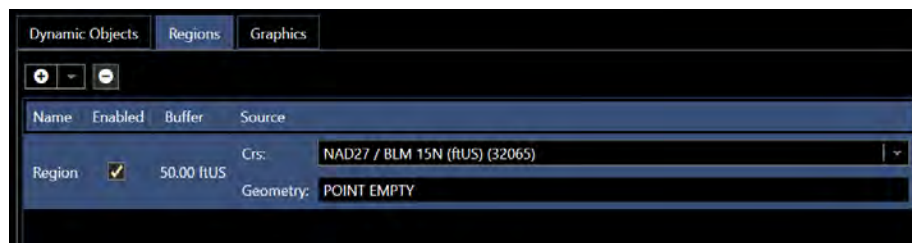

FIGURE 19-7 STATIC REGION
- b. Select the **Static** option from the add button expansion menu. This will add a new geometry item to the list with a default buffer and empty geometry. The geometry field can then be edited (see Figure 19-7).